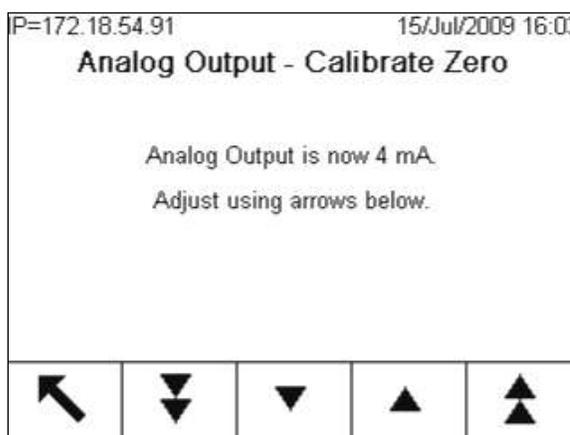

Figure 3-137: Analog Output – Calibrate Zero Screen
- At the **Analog Output - Calibrate Zero** screen (Figure 3-137), use the softkeys to adjust the analog output signal to be exactly zero on the attached device. The available softkeys are described in Table 3-11.